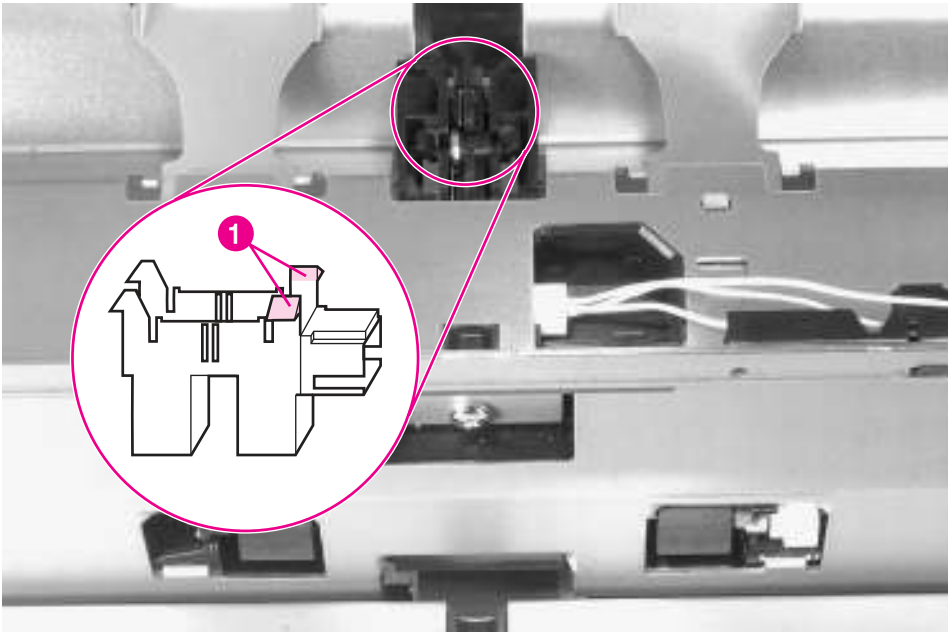

Figure 6-57 Paper Input Unit Sensor (PS2)
- 3 Release the retaining tabs (figure 6-57, callout 1) on the right end of the sensor, and rotate the sensor down to free the tabs on the left end.